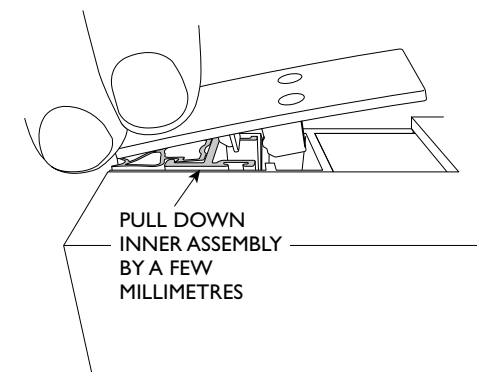

FIG.6
- STEP 10** For soft timber jambs, position striker button where adjustment nut meets door jamb. (**FIG.6**)